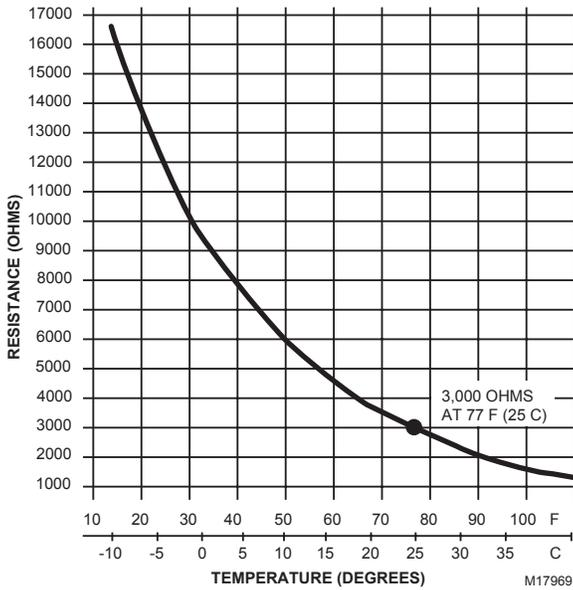

Fig. 7. C7150B1004 Sensor resistance temperature.
3. Nominal resistance measurements should be in accordance with the resistance/temperature curves shown in Fig. 7 and 8.